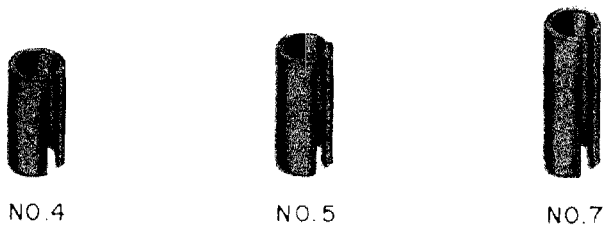

Fig. 14 — Terminal Punching Insulators
6.07 Terminal punching insulators are open-ended fiber insulators for use on terminal punchings to prevent accidental contacts. These insulators are designated No. 4, 5, and 7 and are shown in Fig. 14. Terminal punching insulators have a red enamel finish.
- No. 4 insulators, Fig. 14, are 1/2 inch in length and are used on terminal strips.
- No. 5 insulators, Fig. 14, are 5/8 inch in length and are also used on terminal strips.
- No. 7 insulators, Fig. 14, are for use on cable conductor terminating lugs of the C- and E-type protector mountings.